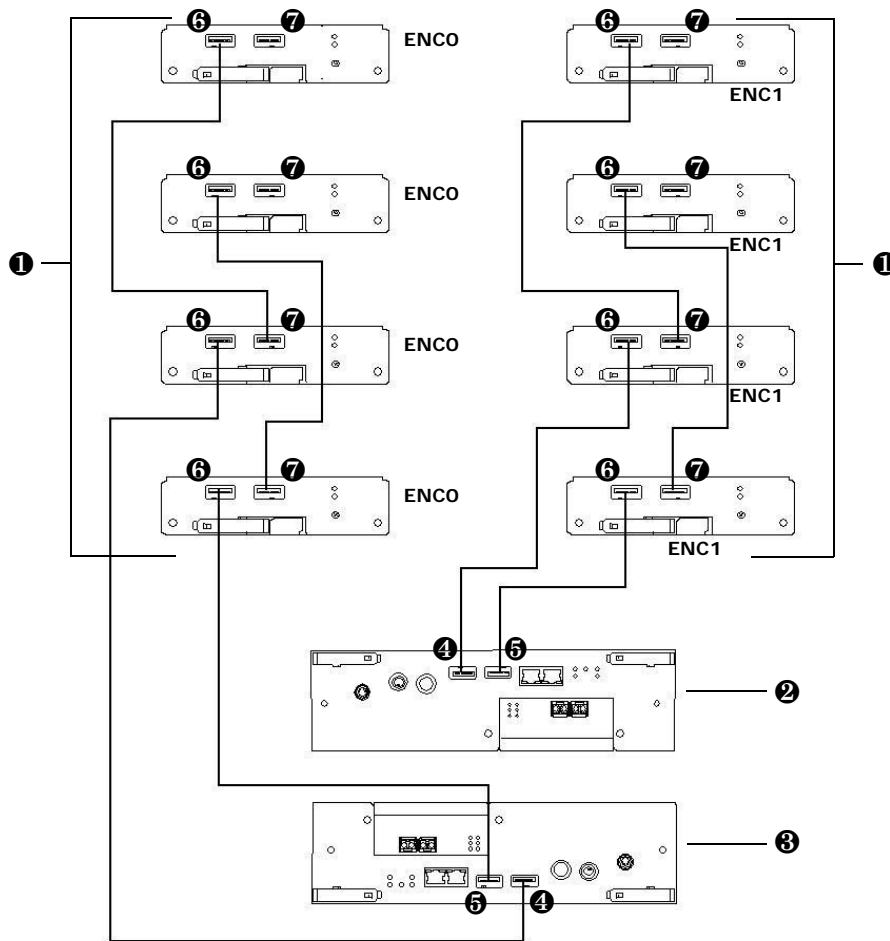

Figure 1-6: Example of Connecting Expansion Units
- c. To connect additional expansion units, follow the pattern in Figure 1-6 on page 12.